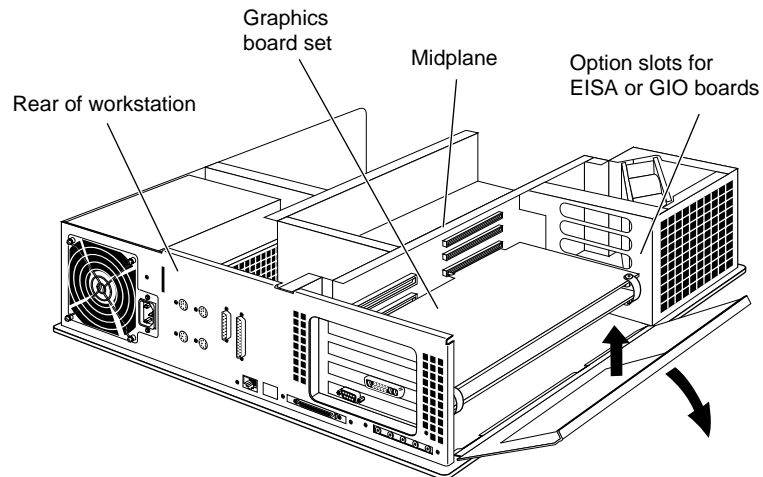

Figure 5-7 Lowering the Metal Panel in Front of the Expansion Slots
2. Move the workstation or position yourself so that you are facing the expansion slots, as shown in Figure 5-7.